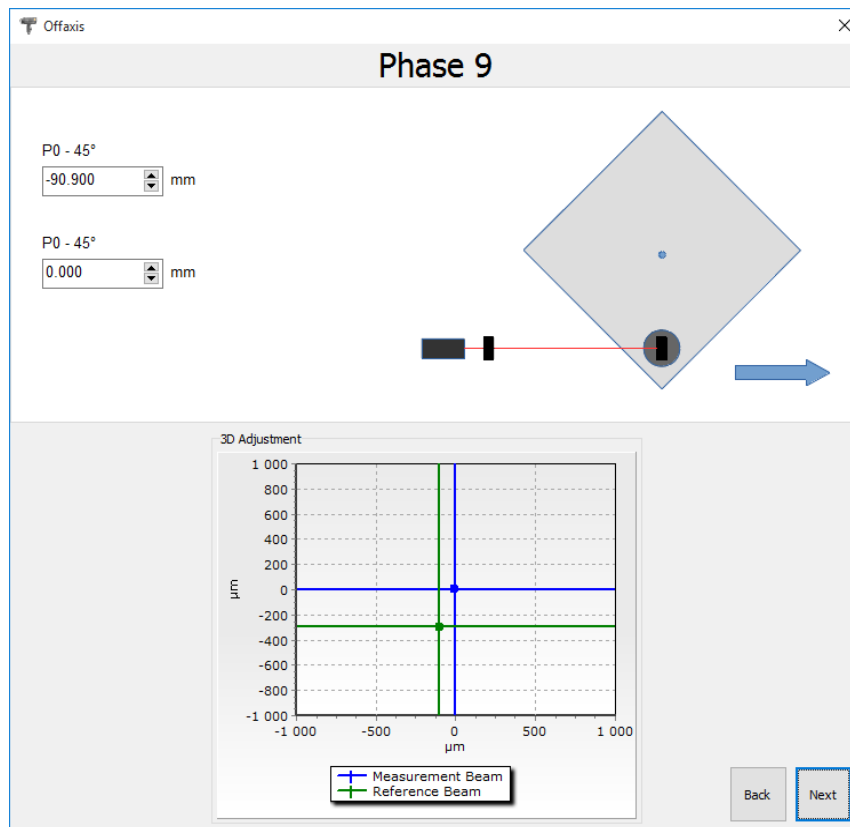

FIG.14.24. PHASE 9 OF THE OFF-AXIS PATH GENERATION
- 9) **Phase 9** - Machine is to be moved in the linear Aux axis until the distance between IK1 and RK1 becomes similar to the value during Phase 1. The required accuracy is <10 cm. The absolute positions of the machine in the Main and Aux axes are to be written into the $P0-45^\circ$ fields in the software – see figure 14.24.